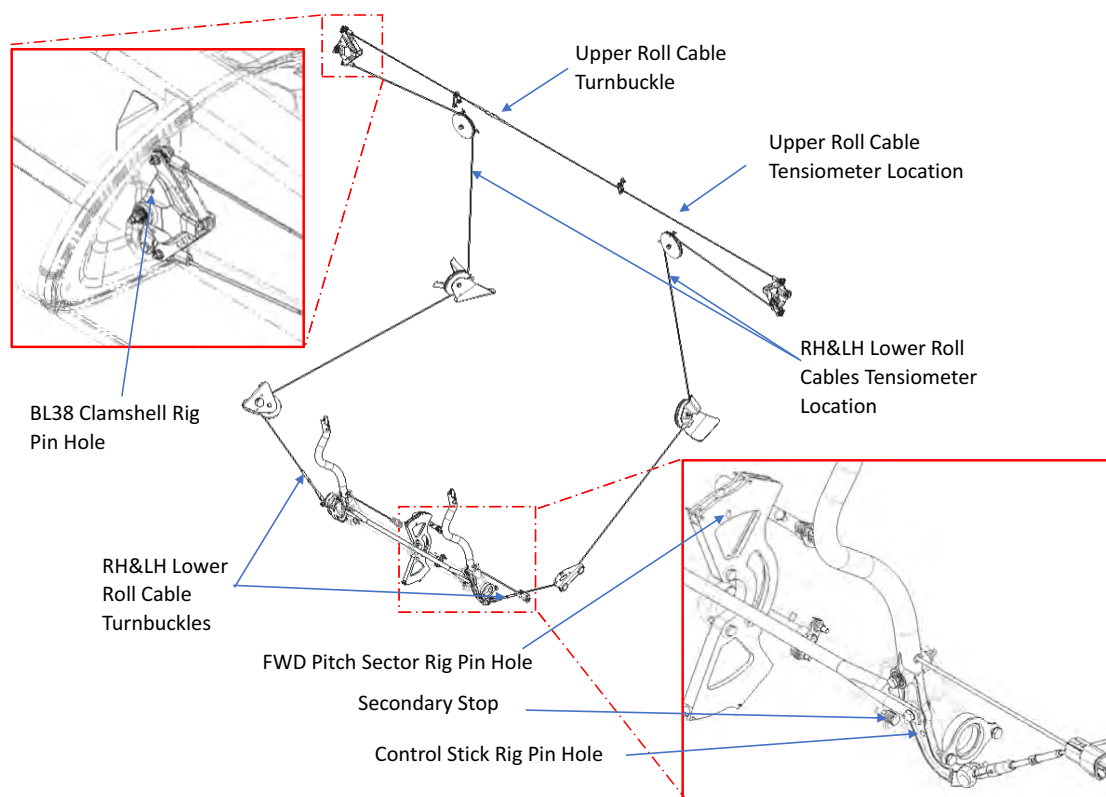

FIGURE 9-21
6. De-tension the affected lower flight control cable by removing the safety wire or turnbuckle clips and loosen the turnbuckle located at the torque tube entrance shown in Figure 9-21 below.